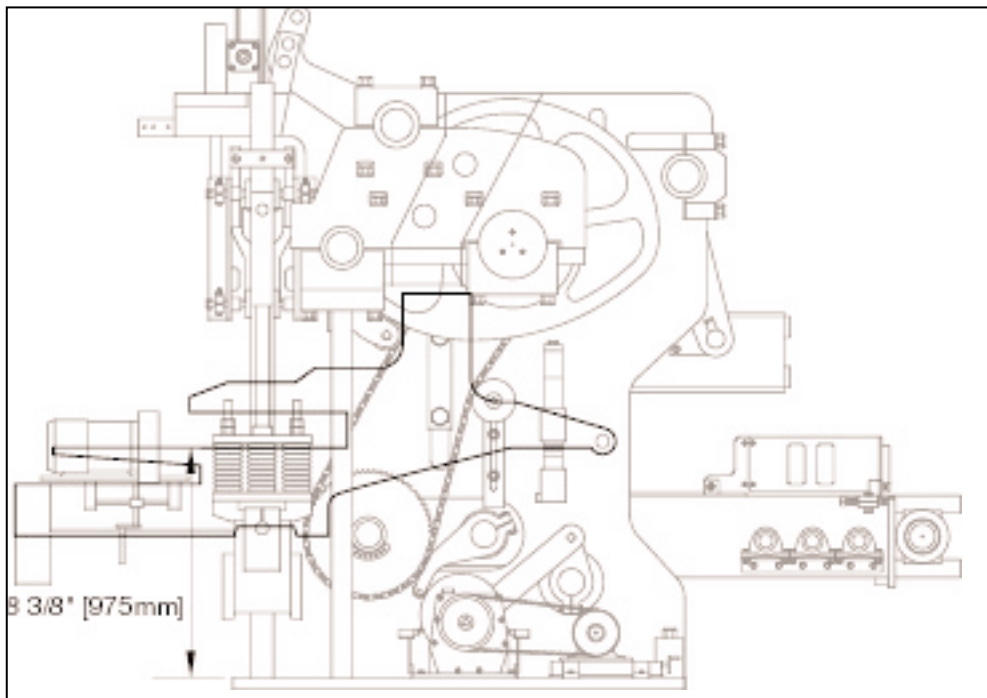

Figure 4.5 INNER FRAME ADJUSTMENT.
4.1.3 Adjust the inner frame so that the mold throat is **38 3/8" [975mm]** above the top on the base plate (figure 4.5). **0.00" [0mm]** of spacers required (no spacers). To do so, follow these procedures.